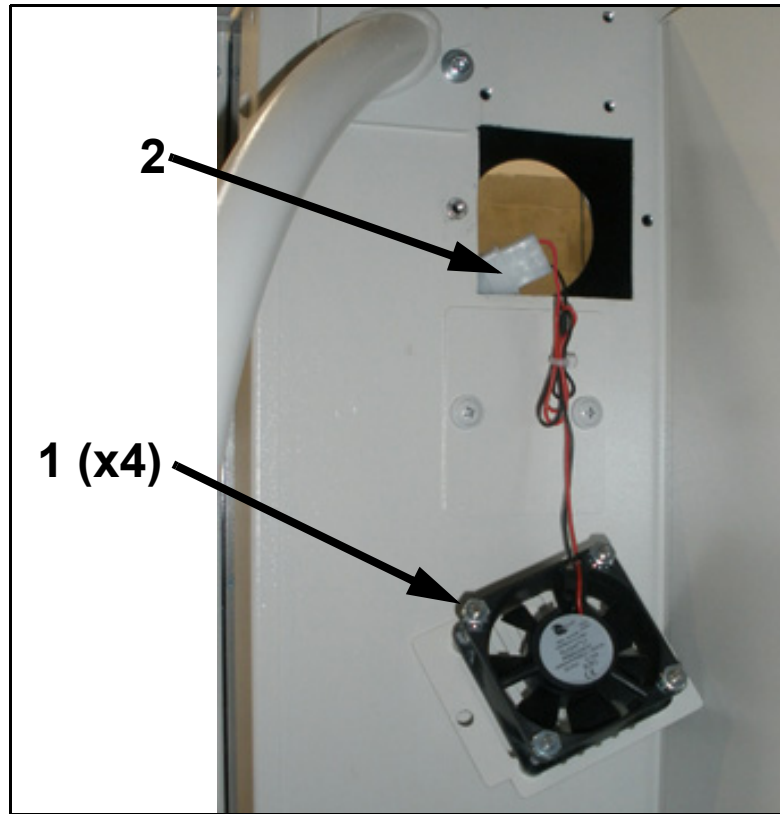

Figure 6-32. Fan Removal
- 3 Unscrew the mounting screws (1 in Figure 6-32).
- 4 Disconnect the connector (2).